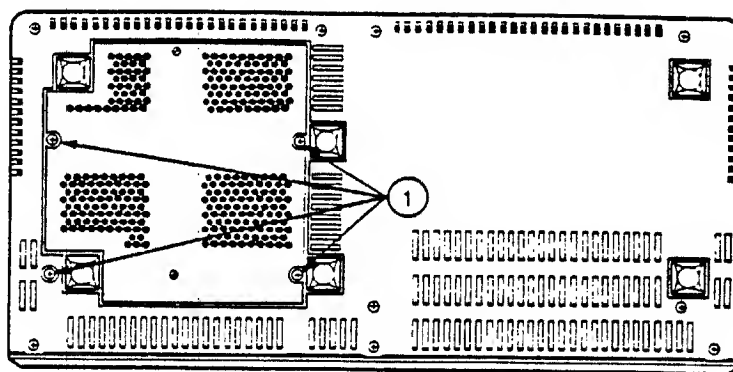

FIGURE 17
3. Three small cables (Figure 17, #2, 3, 4) connect to one side of the PCB. The plug and socket of each cable should bear a corresponding number, so that you can tell which plug goes in which socket. If such numbers are not present, write them in with a marker.
1. Index cable (Figure 17, #2)
2. Stepper motor cable (Figure 17, #3)
3. Track 0 cable (Figure 17, #4)
4. Head cable (Figure 17, #5)
5. Analog-to-controller cable (Figure 17, #6)
6. Remove the four Phillips-head mounting screws from the analog PCB (Figure 17, #1).
7. Gently squeeze outward on the rails (Figure 17, #7) and lift the analog PCB from the HDA.